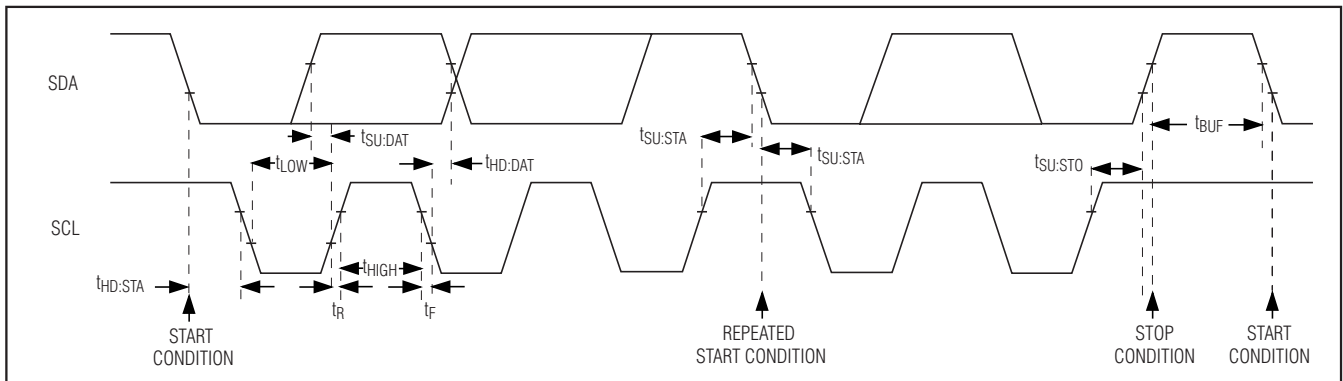

Figure 6. 2-Wire Interface Timing Diagram
The MAX9875 features an I2C/SMBus™-compatible, 2-wire serial interface consisting of a serial-data line (SDA) and a serial-clock line (SCL). SDA and SCL facilitate communication between the MAX9875 and the master at clock rates up to 400kHz. Figure 6 shows the 2-wire interface timing diagram. The master generates SCL and initiates data transfer on the bus. The master device writes data to the MAX9875 by transmitting the proper slave address followed by the register address and then the data word. Each transmit sequence is framed by a START (S) or REPEATED START (Sr) condition and a STOP (P) condition. Each word transmitted to the MAX9875 is 8 bits long and is followed by an acknowledge clock pulse. A master reading data from the MAX9875 transmits the proper slave address followed by a series of nine SCL pulses. The MAX9875 transmits data on SDA in sync with the master-generated SCL pulses. The master acknowledges receipt of each byte of data. Each read sequence is framed by a START (S) or REPEATED START (Sr) condition, a not acknowledge, and a STOP (P) condition. SDA operates as both an input and an open-drain output. A pullup resistor, typically greater than 500Ω, is required on SDA. SCL operates only as an input. A pullup resistor,